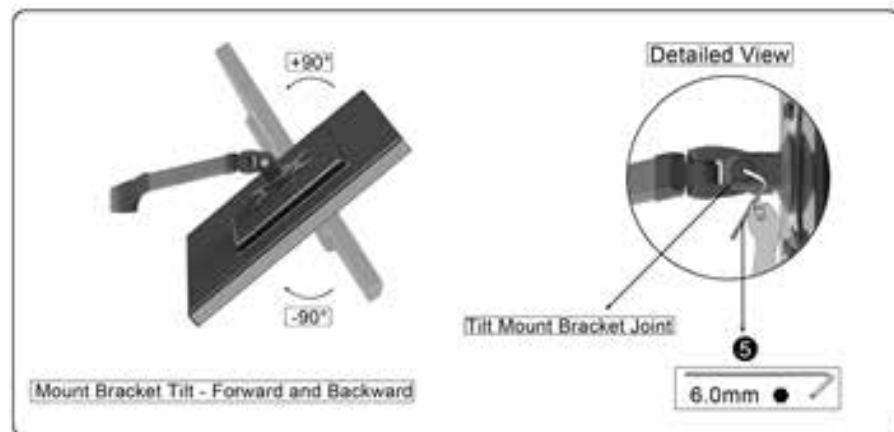

Figure 15
1. Depending on the weight of your monitor and your preferences, you may find it necessary to adjust the tension of the VESA Bracket. You can adjust the Forward/Backward Tilt of the Bracket, as well as, the Left/Right Swing of the Monitor. Using the 6mm Hex Allen Wrench (5) you can adjust the bolts to the desired tension. (See Figure 15)